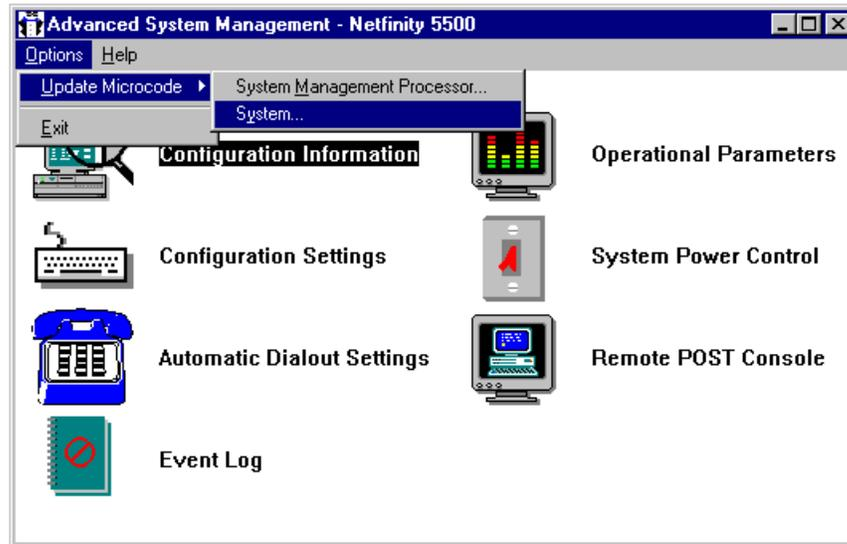

Figure 142. Starting the BIOS Update Process
1. From the Advanced System Management window, click on **Options** → **Update Microcode** → **System** as shown in Figure 142 on page 181.